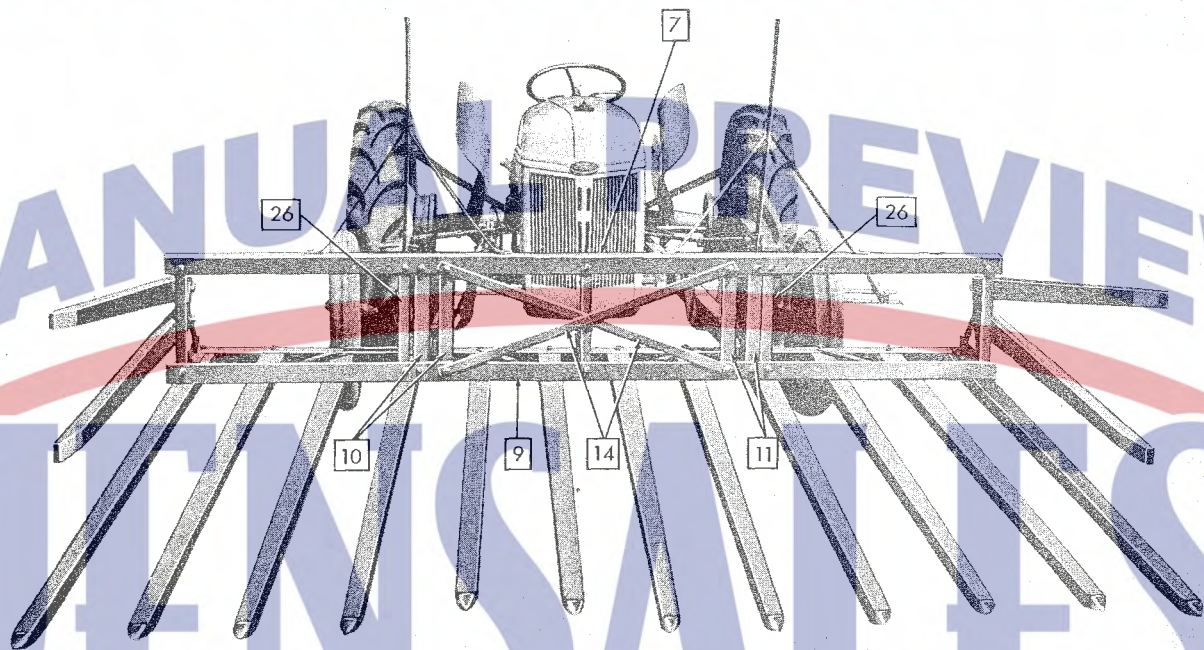

Figure 4
Step 11: Mount pair of right-hand (10) and pair of left-hand (11) push beam angles to top cross angle (7) and bottom front cross angle (9) inside and next to the 2nd and 4th inner steel triangles (26). See Figure 4. These push beam angles have four holes near one end. This end is placed downward with the holes facing inward and toward each other.
Step 12: Place long cross braces (14) in position diagonally between the two inner push beam angles (10 and 11) with the upper ends attached to the upper front cross angle (7) and the lower ends to the bottom front cross angle (9). Braces are in front of cross angle and attached by the same bolts that hold the two inner push beam angles. See Figure 4.